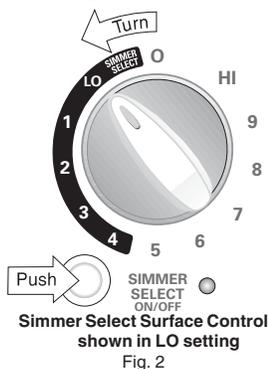

Fig. 2
3. Turn the surface control knob to the desired simmer setting within the dark band on the control knob (LO to 4). Use the marks as a guide and adjust the control knob from LO to 4 as needed (see illustration below). The Simmer Select indicator light will glow and remain ON while simmering (See Fig. 2).